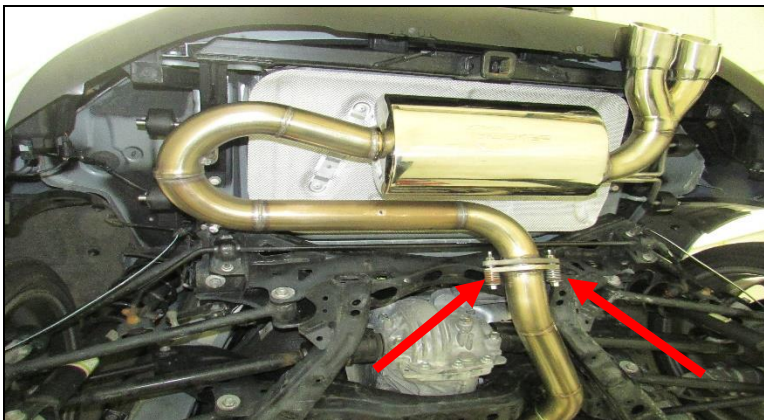

Figure 9
4. Connect the muffler flange to the resonator flange. Install the (x2) OEM springs (x2) spring bolts, (x2) flange locknuts that was supplied with the kit (**Figure 9**).